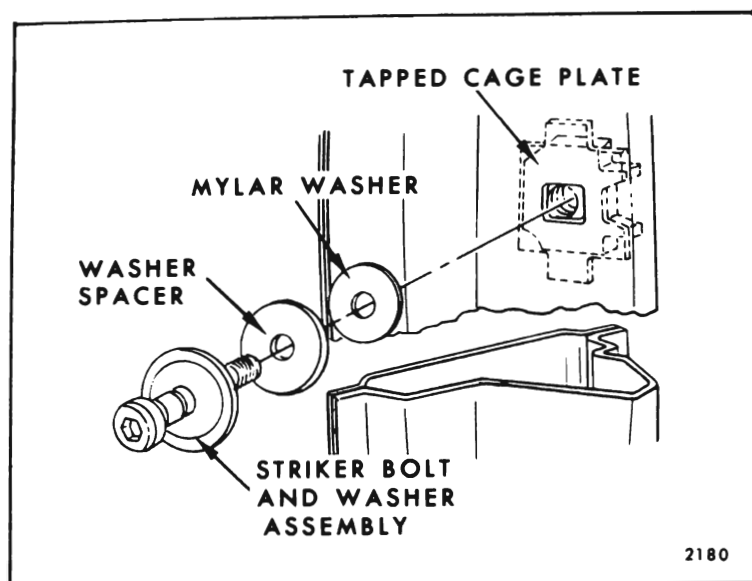

Fig. 7-32—Door Lock Striker Installation
2. Insert a 5/16" wrench into hex-head fitting in head of striker bolt and remove striker (Fig. 7-32).
3. To install, reverse removal procedure. Make certain striker is positioned within pencil mark. Also, make certain that paint protecting plastic washer is installed (Fig. 7-32).